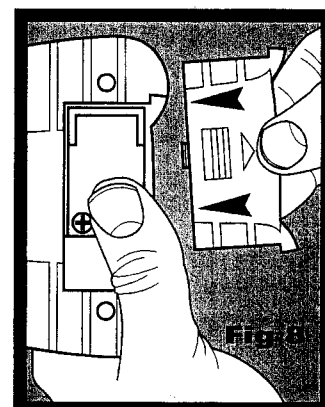

Fig 8
- Hold battery in place with thumb and replace BATTERY DOOR. (Fig. 8)